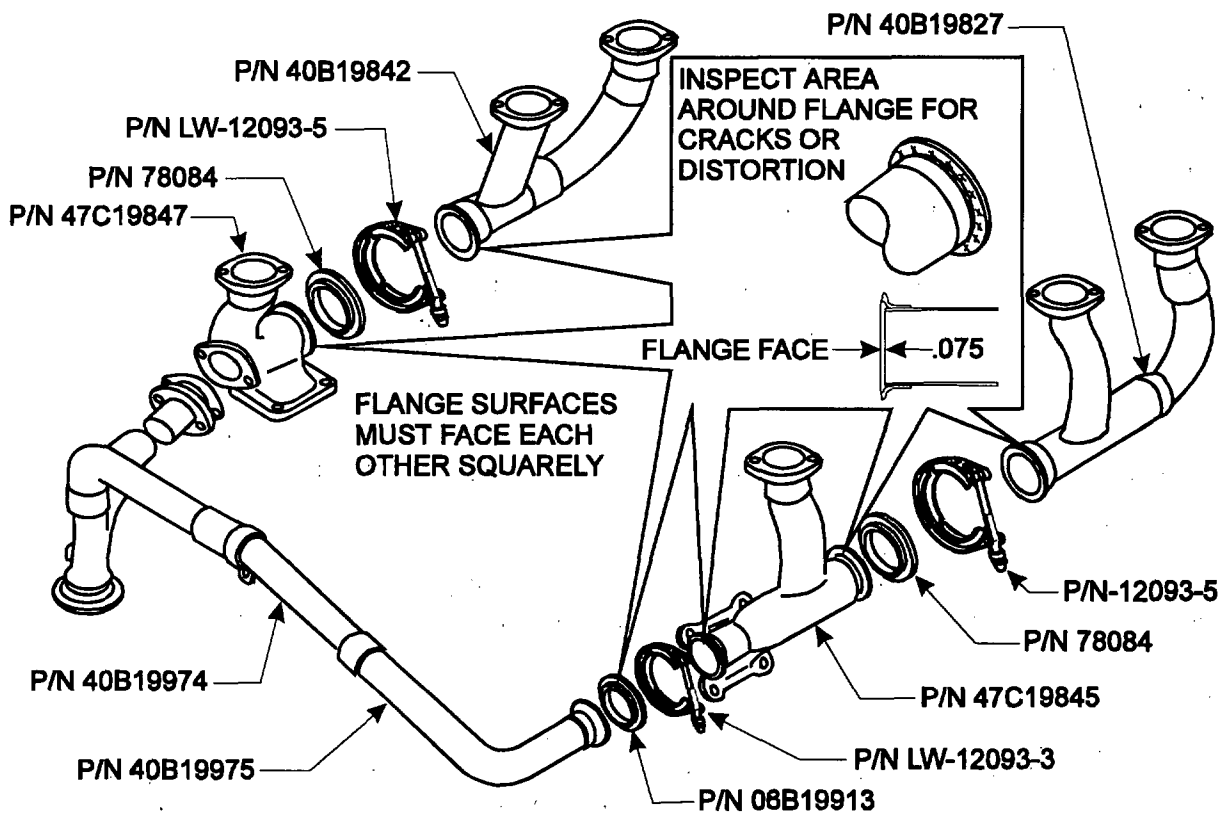

Figure 5. Flange Areas Subject to Damage
1. Inspect exhaust pipes for cracks around the flange and pay particular attention to the condition of the slip joint noting any damage which may prevent free movement of the joint. In addition, check the end of the exhaust pipe inside the flange mouth; it must be a minimum of .075 inch below the surface of the flange face. (Refer to Figure 5.)